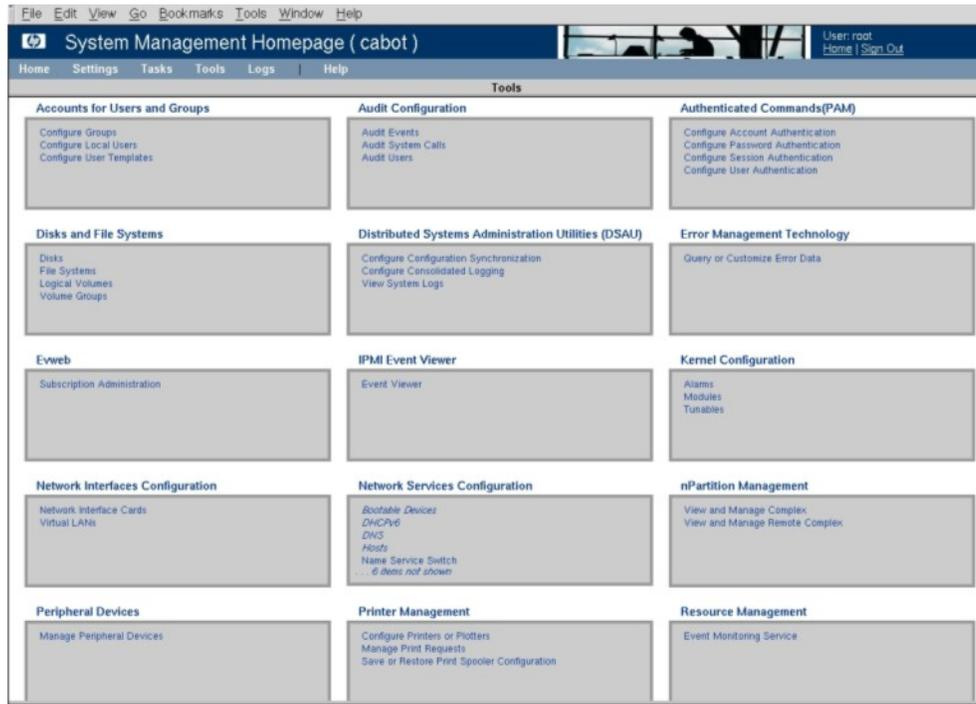

Figure 3 SMH web-based interface (HP-UX11i v3)
2. From the SMH Tools page (see Figure 3 on page 11), select Manage Peripheral Devices from the Peripheral Devices section.